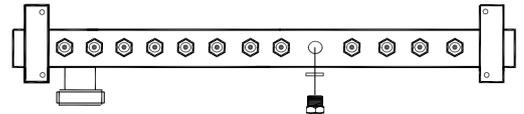

Fig. 50
7.11 TO REMOVE/REPLACE THE INJECTORS (fig. 50).